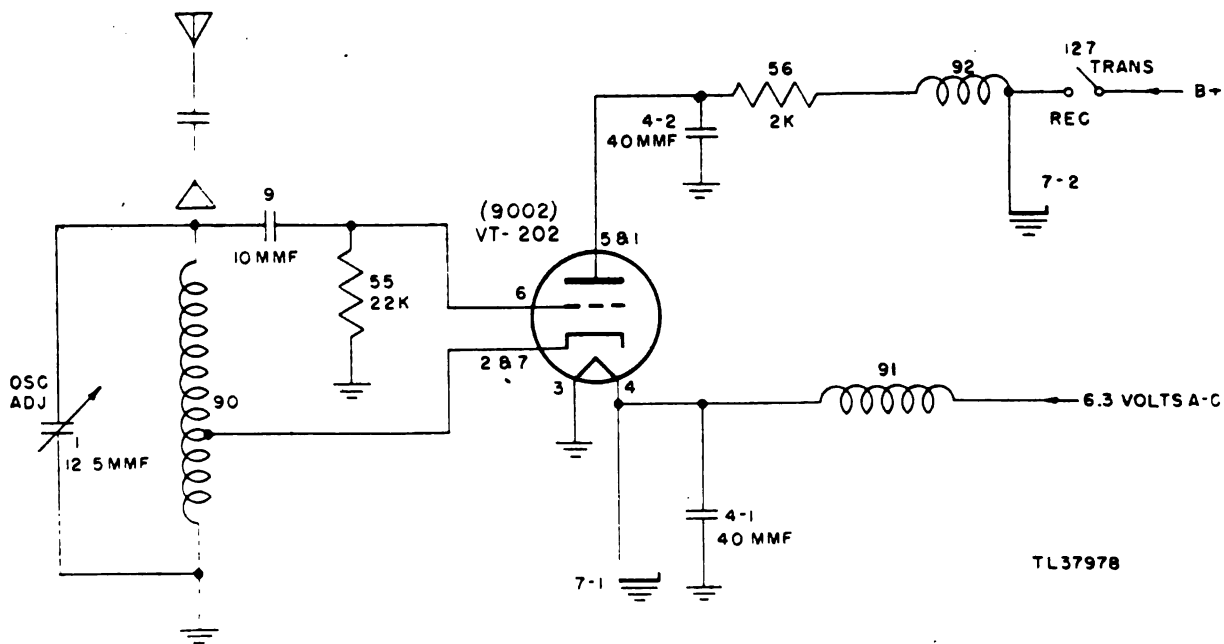

Figure 71. Auxiliary oscillator, partial schematic.
**a. GENERAL.** To tune the receiver to the transmitter frequency, the use of the other stage in the wavemeter, the auxiliary oscillator, is needed. (See fig. 71.) This is switched into the circuit by throwing switch 127 to REC position, which puts the proper voltage on the plate of the VT-202 (9002) and causes it to oscillate.